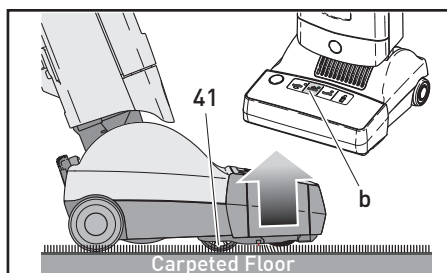

Figure 5
On hard floors (figure 5), the adjustment wheel (40), moves upward into the machine so that the brush lowers and becomes flush with the floor.